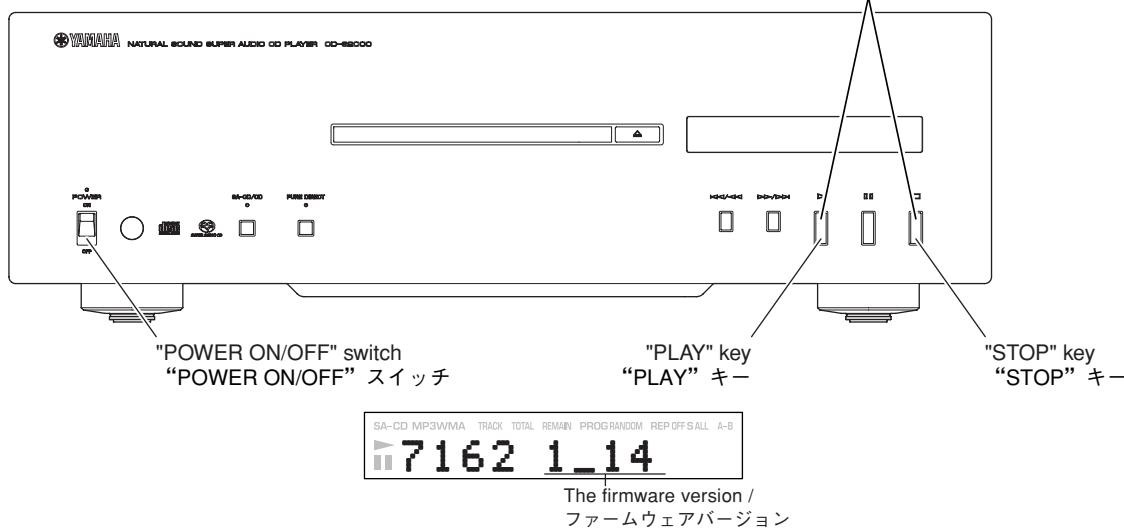

Fig. 8
2. While pressing the "PLAY" and "STOP" keys of this unit, set the "POWER ON/OFF" switch to the ON position. Then the Test mode is activated. (Fig. 8)
2. 本機の"PLAY"キーと"STOP"キーを押しながら、"POWER ON/OFF"スイッチをONにします。(Fig. 8)